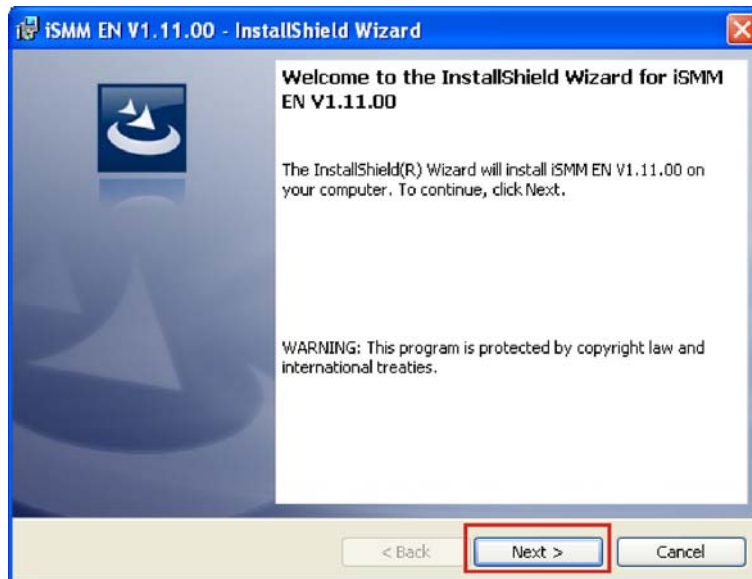

Figure 7-31: iSMM InstallShield Welcome Screen
Step 7: The iSMM InstallShield Welcome Screen appears. (Figure 7-31)